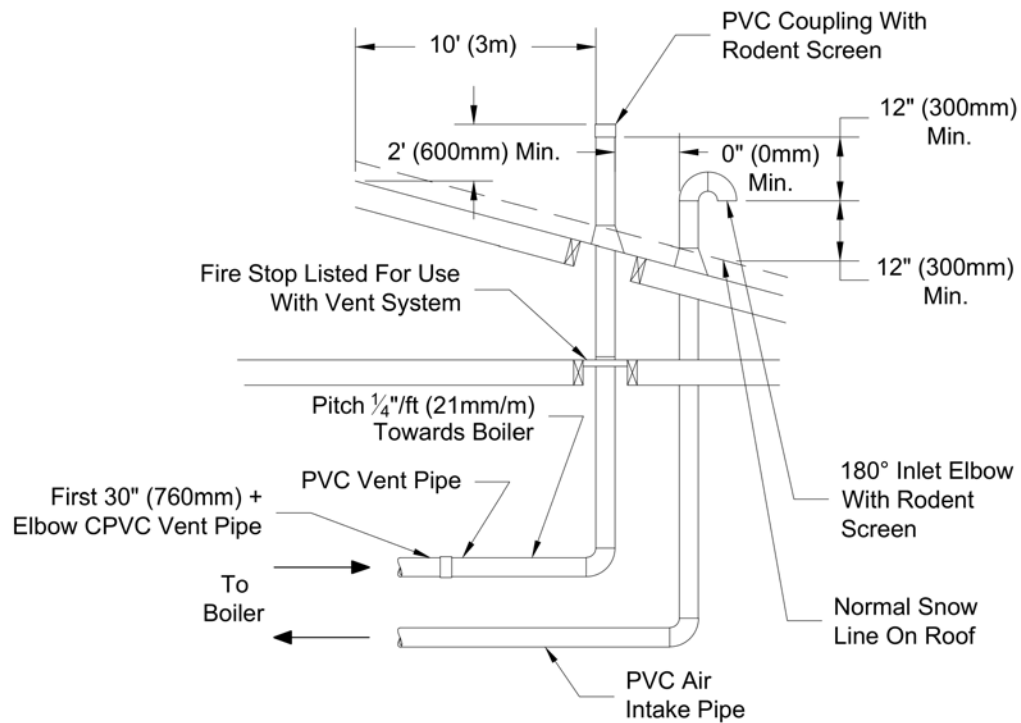

Figure 7.15: Vertical CPVC/PVC Venting (Vent Options 10 & 11, Terminal Option H)
- For terminal option H, maintain at least 12" of vertical separation between the exhaust and intake opening as shown in Figure 7.15 and 7.17.